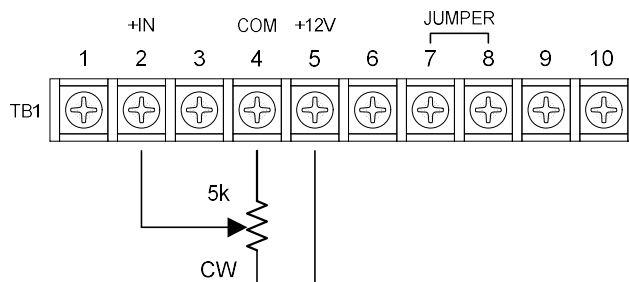

Figure 4.3 Remote Control with a Potentiometer
- a. With the power to the PF3 turned off, connect the potentiometer as shown in Figure 4.3. The CW position is the full power output position. Terminal TB1-5 is internally connected to a positive dc voltage source.